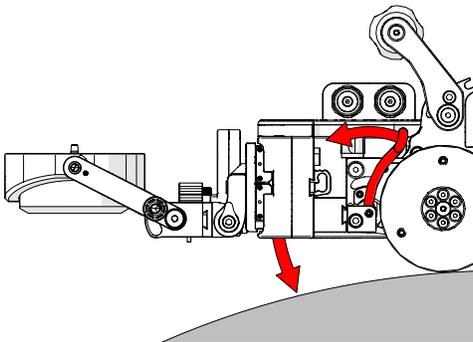

Fig. 68 - Pivot Raster Arm HT
3. Release the two levers on the swivel mount to allow pivoting of the Raster Arm HT (Fig. 68).